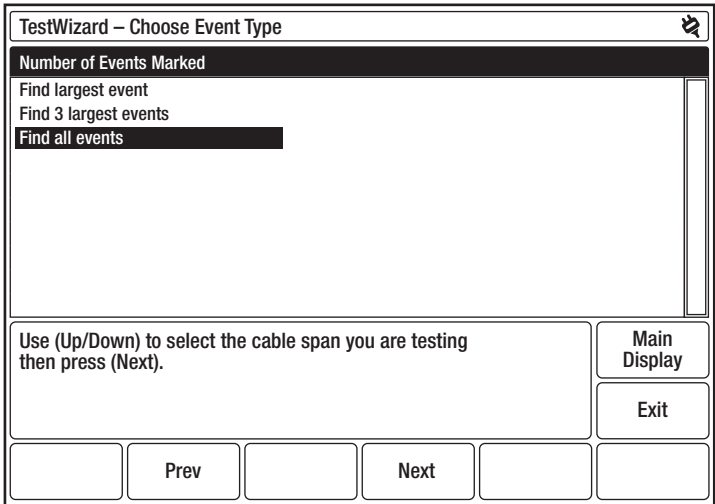

Figure 4-3: TestWizard – Choose Event Type
5. After selecting the cable span, press **Next** to display the **TestWizard – Choose Event Type** menu (Figure 4-3).